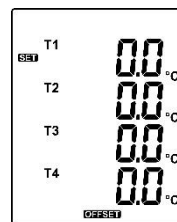

Fig.13
- (1) Press the  or  button to select thermocouple channel. (see Fig.13)